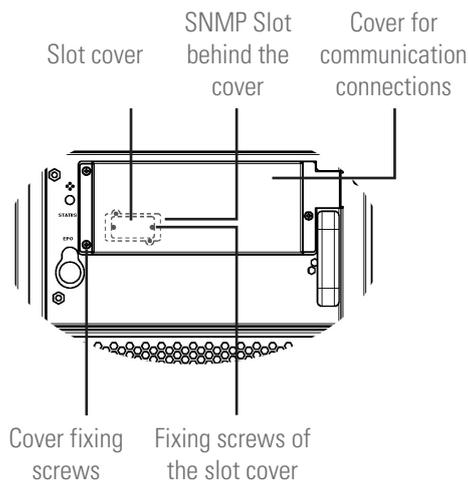

Fig. 64. Slot for SNMP in sub-rack of 2 and 4 slots for power modules.
- In the sub-racks of 2 and 4 power slots, it is located behind the cover giving access to the communication connections, located next to the monitoring panel with touch panel (see Fig. 64).